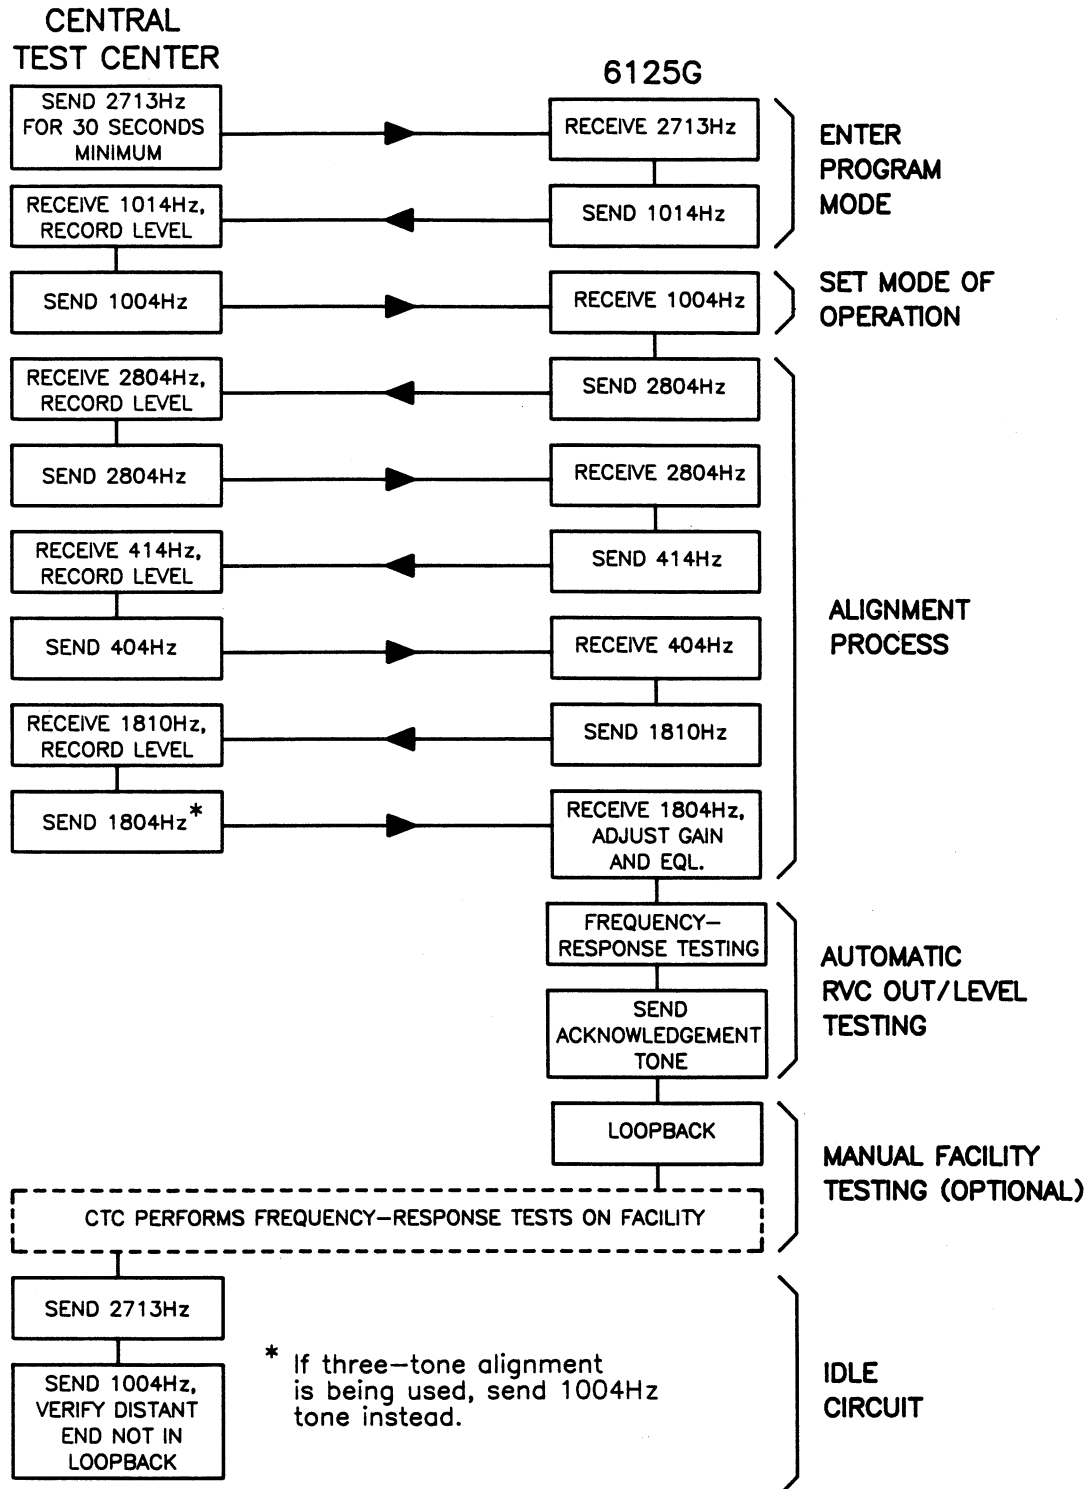

figure 12. Alignment flowchart for LOCAL mode
- 4.02 Table 14 is a quick-reference guide for locating the desired alignment or diagnostic procedure. Table 15 is an overview reference table that lists tone frequencies and/or DTMF codes used to select and activate (from the PROGRAM mode) the 6125G's various remote alignment and diagnostic modes. Tables 16 through 21 provide step-by-step procedures for initiating the 6125G's remote alignment and diagnostic modes. Figures 12 through 17, respectively, are corresponding flowcharts showing the end-to-end alignment and diagnostic processes. Select the desired mode in table 14; then perform the procedure in the appropriate table while referring as needed to the corresponding flowchart. If LOCAL or LOCAL PLUS alignment is used, see paragraph 4.04 for an additional optional procedure associated with the LOCAL and LOCAL PLUS modes only.